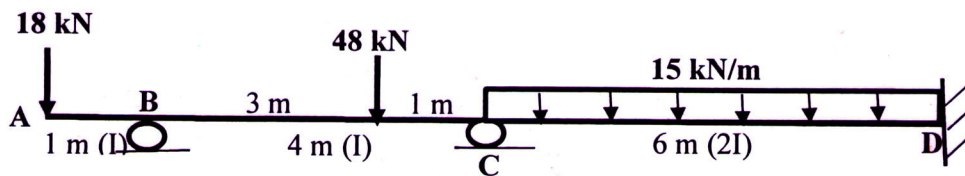

Figure 6
- 16 **Figure 6** shows a loaded beam of length 11 m. Analyse using 'Moment Distribution Method', determine the end moments and draw the BMD. 14